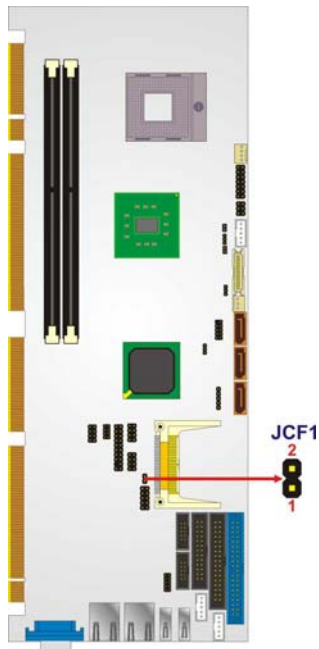

Figure 5-10: CF Card Setup Jumper Location
- Jumper Location:** See Figure 5-10